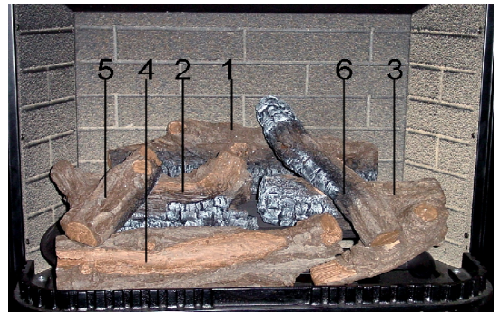

Figure 8
- Insert the pinhole in the upper part of log 4 into the pin on the left side of log 1. Place the lower part on the flat roof at the left side of log 3 (Figure 8).
- Insert the pinhole in the upper side of log 5 into the pin on the right side of log 1. Place the lower part on the flat roof at the right side of log 4 (Figure 8).